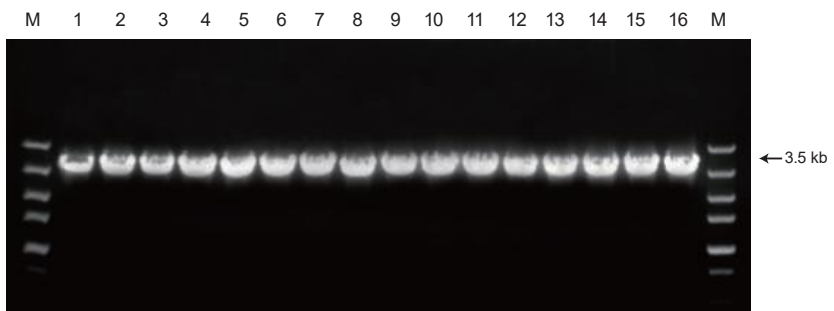

Fig 6. Agarose Gel Electrophoresis of Colony PCR Products
- ◇ Pick several clones from the plate of recombination reaction for colony PCR with at least one universal sequencing primer of the vector. If the colony is positive, a band slightly larger than the size of inserts should appear (Fig 6).